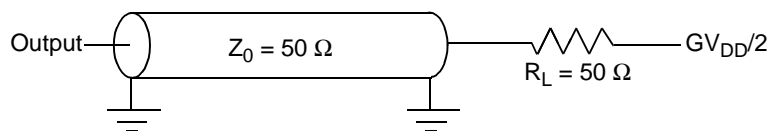
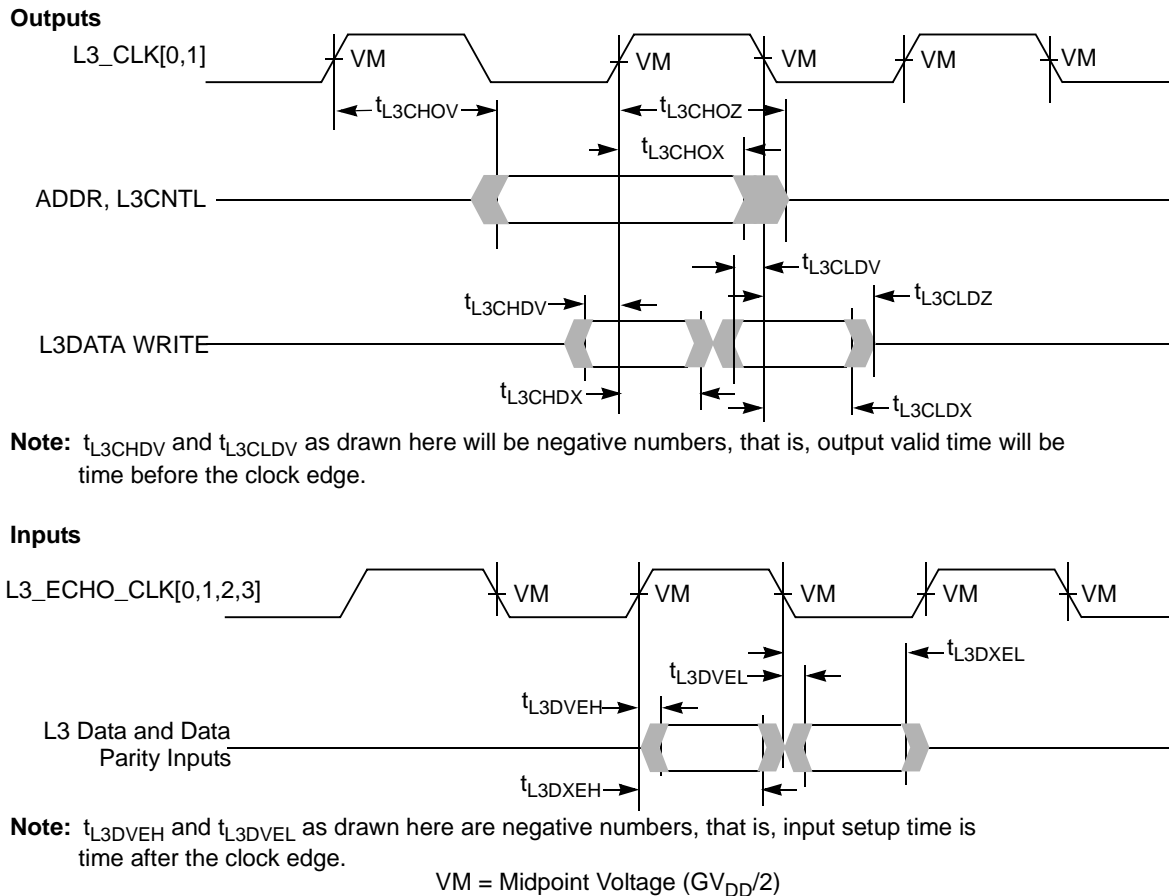
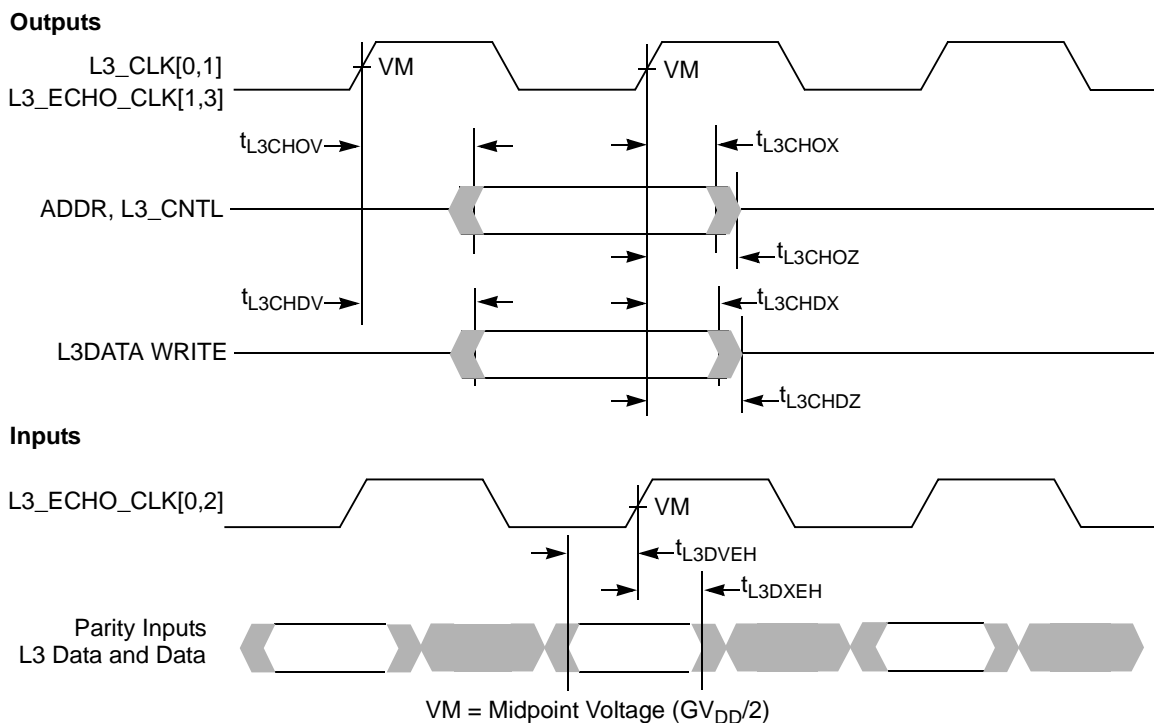

Figure 8. AC Test Load for the L3 Interface
Figure 10. L3 Bus Timing Diagrams for L3 Cache DDR SRAMs
Figure 12. L3 Bus Timing Diagrams for Late Write or PB2 SRAMs
- For high speed operations, L3 interface address and control signals should be a ‘T’ with minimal stubs to the two loads; data and clock signals should be point-to-point to their single load. Figure 8 shows the AC test load for the L3 interface.
Table 13 provides the L3 bus interface AC timing specifications for the configuration as shown in Figure 9, assuming the timing relationships shown in Figure 10 and the loading shown in Figure 8.
2. For DDR, all input specifications are measured from the midpoint of the signal in question to the midpoint voltage of the rising or falling edge of the input L3_ECHO_CLK n (see Figure 10). Input timings are measured at the pins.
3. For DDR, the input data will typically follow the edge of L3_ECHO_CLK n as shown in Figure 10. For consistency with other input setup time specifications, this will be treated as negative input setup time.
5. All output specifications are measured from the midpoint voltage of the rising (or for DDR write data, also the falling) edge of L3_CLK to the midpoint of the signal in question. The output timings are measured at the pins. All output timings assume a purely resistive 50- Ω load (see Figure 8).
6. For DDR, the output data will typically lead the edge of L3_CLK n as shown in Figure 10. For consistency with other output valid time specifications, this will be treated as negative output valid time.
Figure 10 shows the L3 bus timing diagrams for the MPC7457 interfaced to MSUG2 SRAMs.
Table 14 provides the L3 bus interface AC timing specifications for the configuration shown in Figure 11, assuming the timing relationships of Figure 12 and the loading of Figure 8.
3. All input specifications are measured from the midpoint of the signal in question to the midpoint voltage of the rising edge of the input L3_ECHO_CLK $_n$ (see Figure 10). Input timings are measured at the pins.
4. All output specifications are measured from the midpoint voltage of the rising edge of L3_CLK $_n$ to the midpoint of the signal in question. The output timings are measured at the pins. All output timings assume a purely resistive 50- Ω load (see Figure 10).
Figure 12 shows the L3 bus timing diagrams for the MPC7457 interfaced to PB2 or Late Write SRAMs.